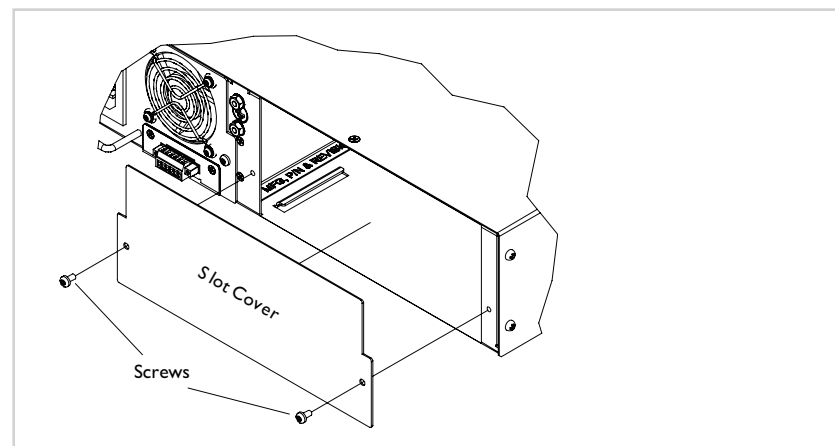

Figure 4: Chassis Slot Cover
3. Remove the slot cover from the right chassis slot and keep the two screws. See Figure 4.